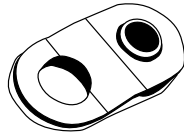

Figure 14
3. To maximize winch and wire rope life, use a pulley block to double line heavier loads (Figure 14).